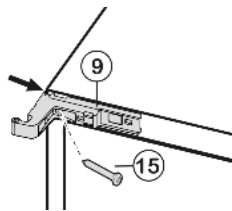

Fig. 14
- ▶ Turn the top turn hinge Fig. 14 (9) through 180° and screw it firmly into place on the opposite side with the screw Fig. 14 (15) (with 4 Nm). Butt the turn hinge against the side wall of the appliance.